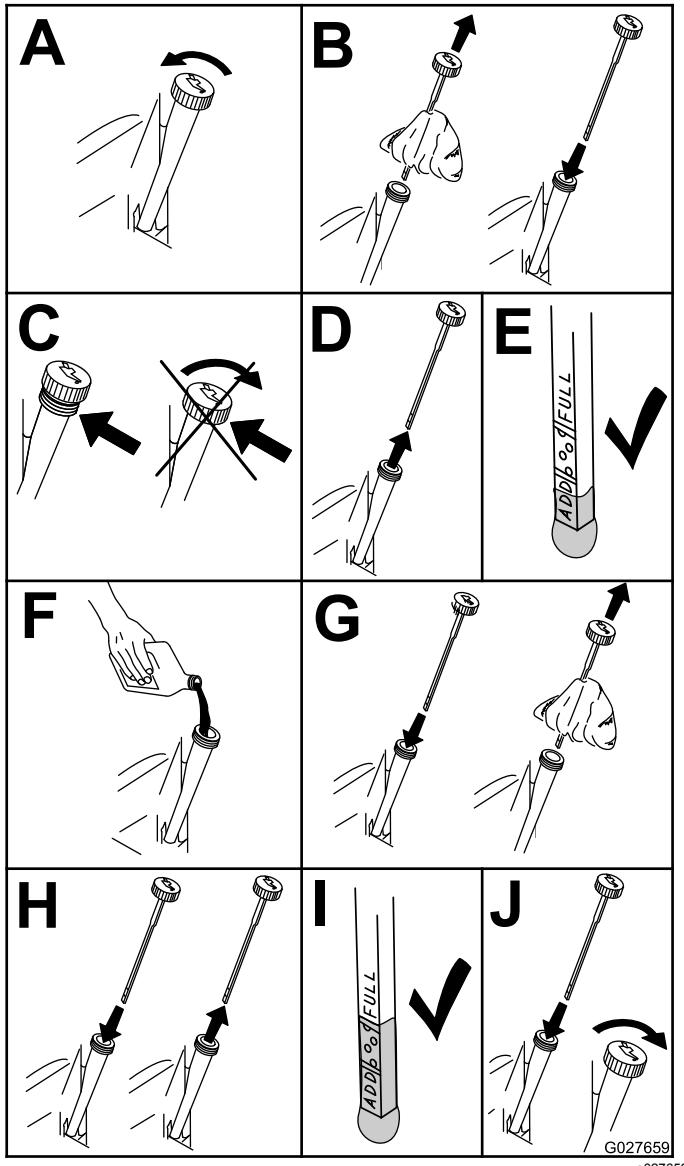

Figure 37
3. Check the engine-oil level as shown in (Figure 37).